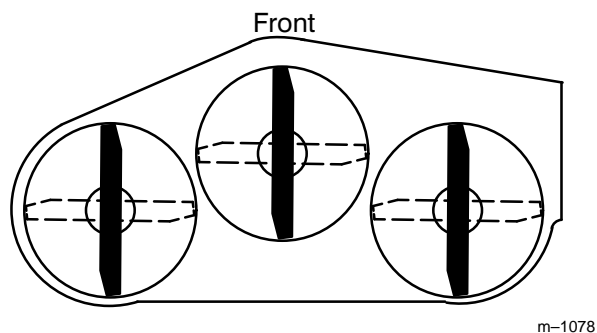
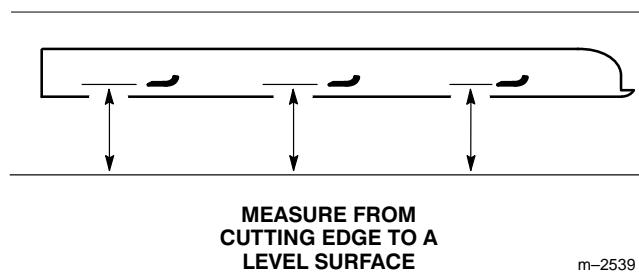

Figure 12
Figure 13
1. Rotate the blades until the ends face forward and backward (Fig. 12). Measure from a level surface to the cutting edge of the blades (Fig. 13). Note this dimension.